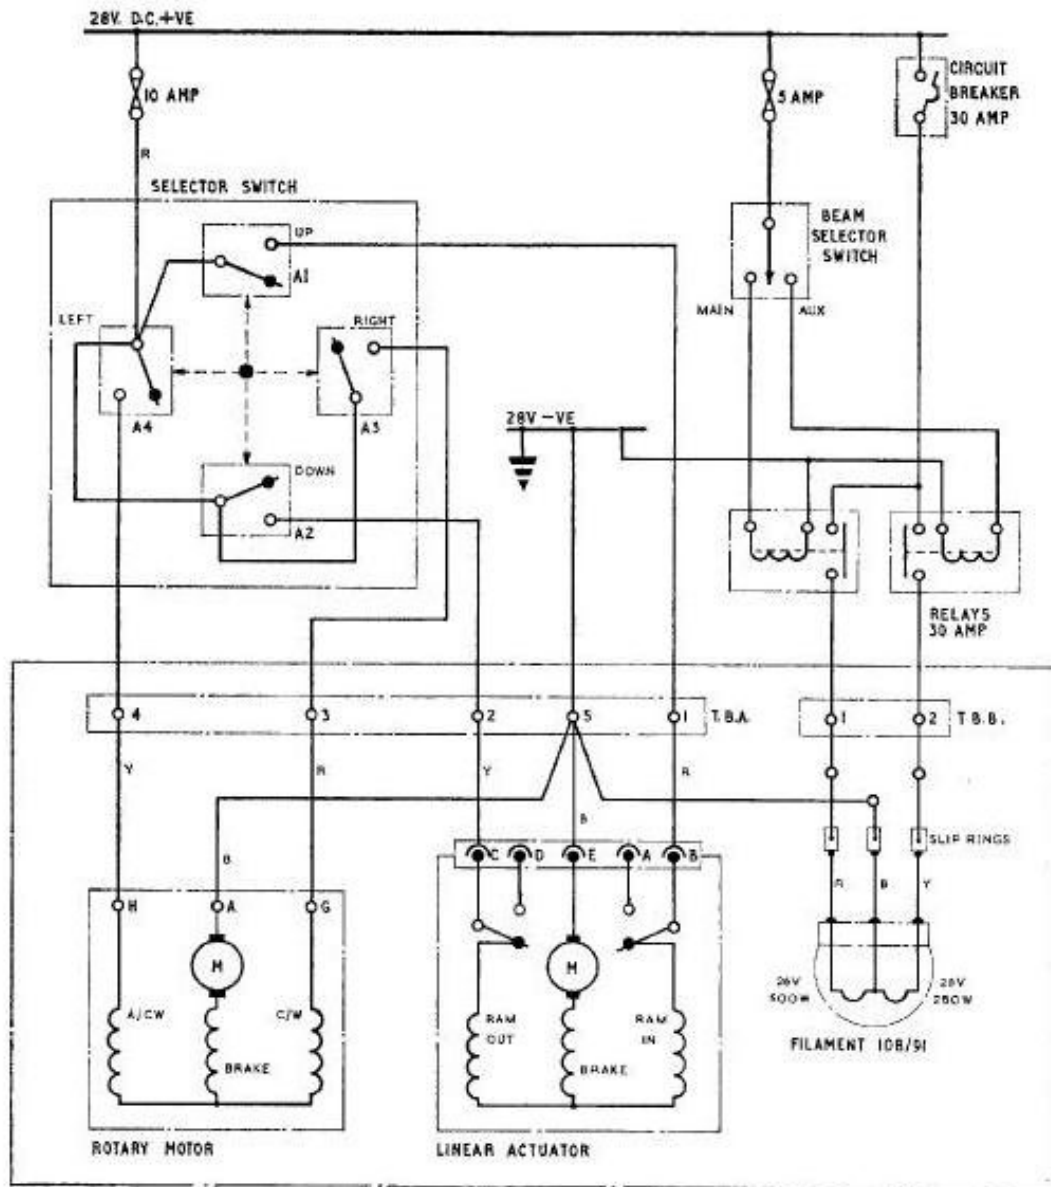

Fig. 1. Circuit diagram
3. (1) Mount the lamp on the test frame and connect it to a test circuit as shown in fig. 1.